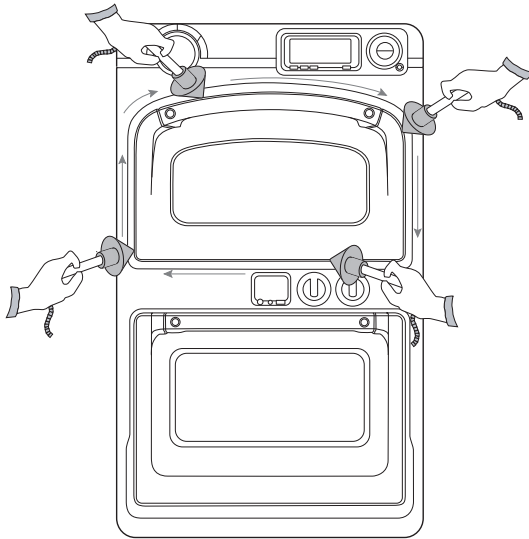

Figure 5.4: Survey Meter Placement
4. Position the microwave survey meter as shown in Figure 5.4.